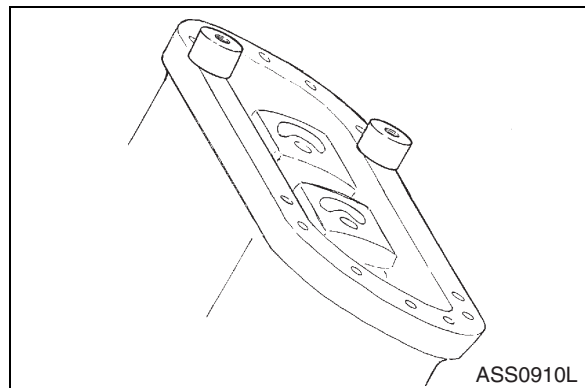

Figure 97
- A. Size 80 - 107 (Figure 97)